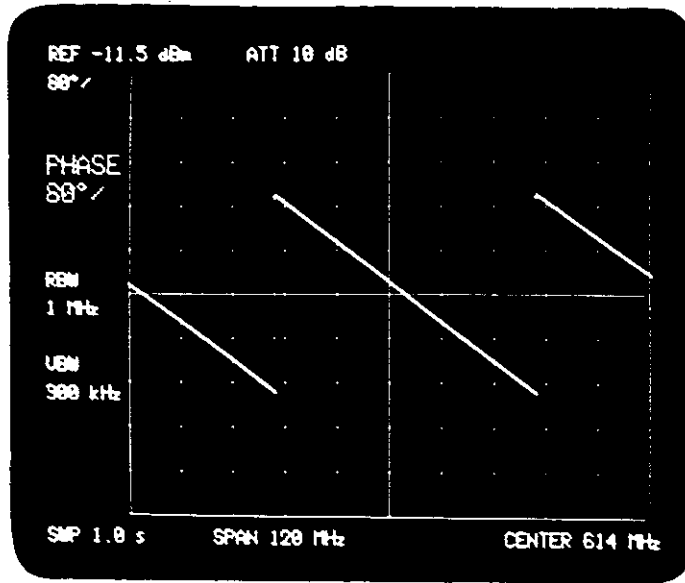

Fig. 6-1 Phase in rotation
- ① Set center frequency, frequency span, resolution bandwidth, sweep time, and other necessary conditions.
- ② Connect the TRACKING GENERATOR OUTPUT to the input of the device under test (amplifier or filter), and connect the output of the device under test to the INPUT of the analyzer. Activate the tracking generator.
- ③ Press the NORMAL key to measure the pass-band response of the device under test. According to the measurement result, select the appropriate T.G. LEVEL and INPUT ATT. level.
- ④ Then press the PHASE key to select the phase measurement mode. The display will present measurement range XX° at its top left corner, and the indicator lamp just above the PHASE key will illuminate. In the Phase Measurement mode press the SWEEP TIME key to manually select the appropriate sweep time (the AUTO mode is programmed for amplitude measurement).
- ⑤ For more precise phase measurement without the affect of phase error of the measuring system, disconnect the device under test from the measuring setup, then connect the input and output cables by using an inline plug adapter to check the phase response of the measuring system itself.
- ⑥ If phase rotation is observed as shown in Figure 6-1, press the kHz G.D. OFFSET key to activate the electrical length.